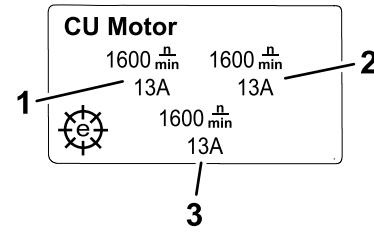

Figure 20
- CU motor information screen  (Figure 20):** shows the speed and current of each cutting-unit motor.